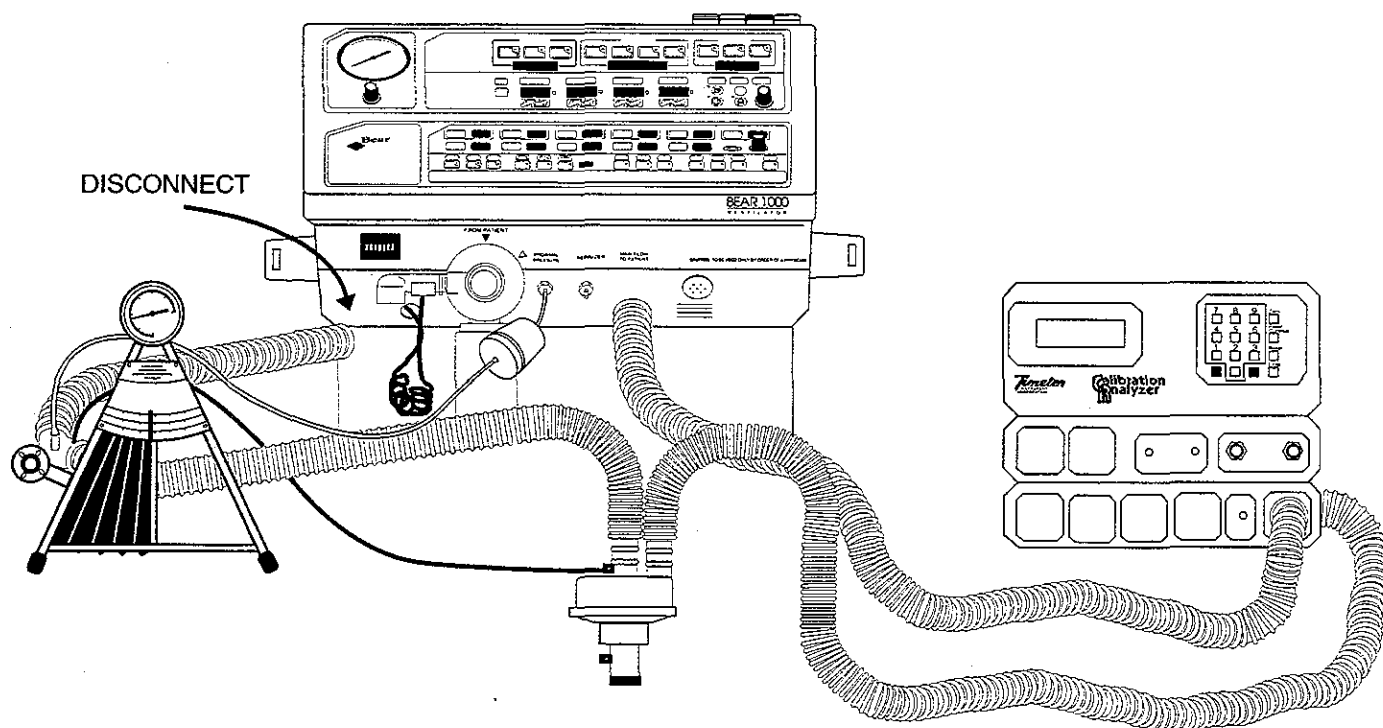

Figure 3-8
1. Connect the ventilator and analyzer as shown in Figure 3-8.